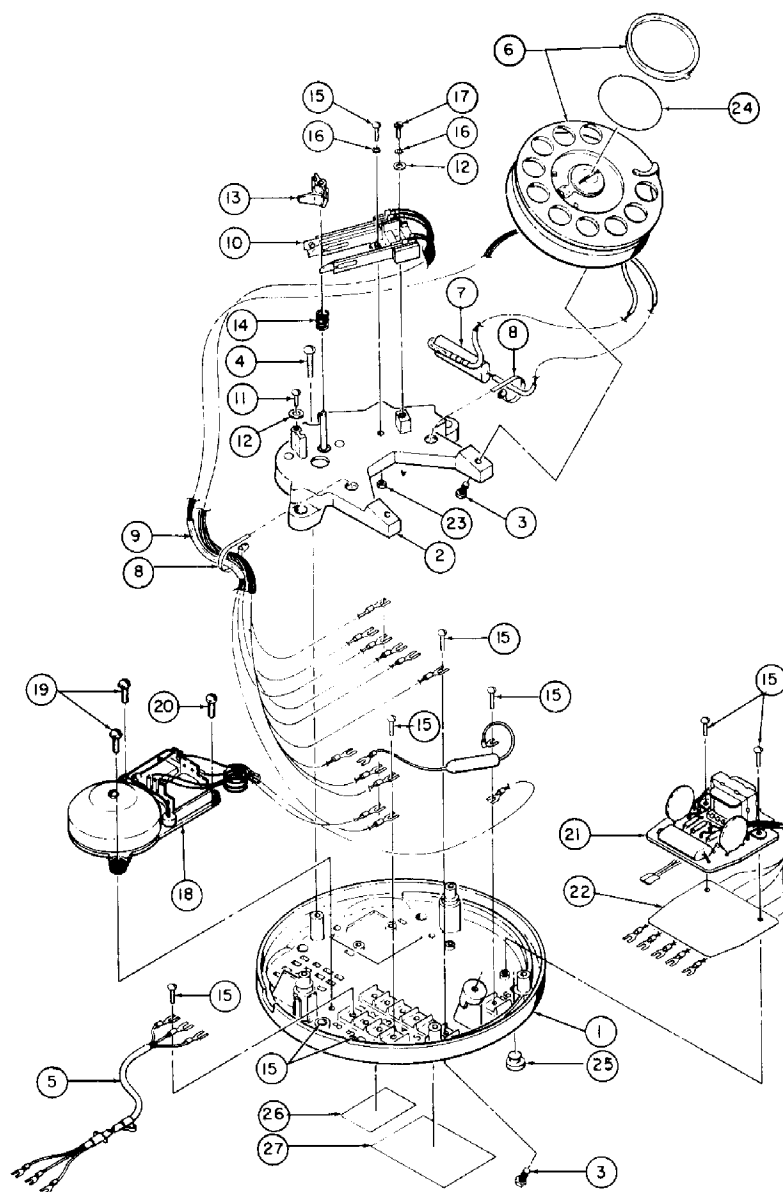

Figure 8. Candlestick Telephone Base.
7.13 Install the line cord (Figure 8, 5) as follows:
7.15 After all the connections have been made, position the platform (Figure 8, 2) over the base, and secure with screw (4) from the top and screw (3) from the bottom of the base.